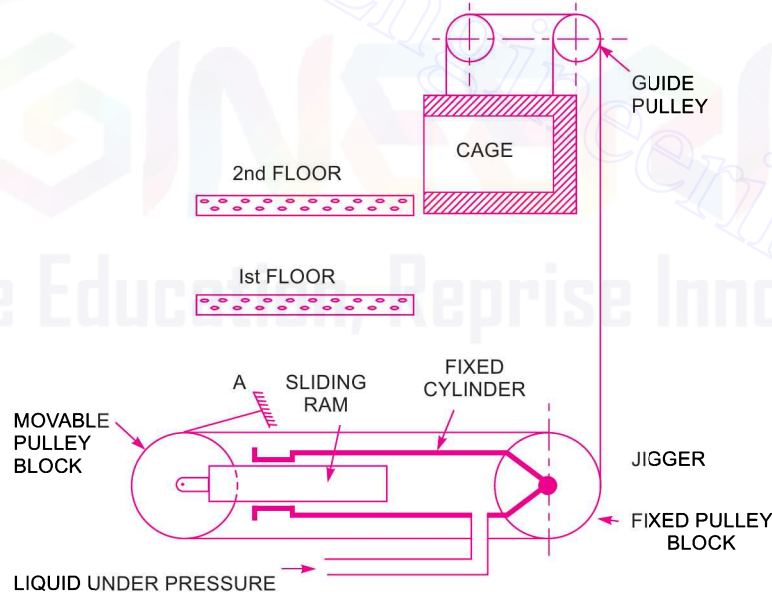

Fig. 21.9 *Suspended hydraulic lift.*
**21.6.2 Suspended Hydraulic Lift.** Fig. 21.9 shows the suspended hydraulic lift. It is a modified form of the direct acting hydraulic lift. It consists of a cage (on which persons may stand or goods may be placed) which is suspended from a wire rope. A jigger, consisting of a fixed cylinder, a sliding ram and a set of two pulley blocks, is provided at the foot of the hole of the cage. One of the pulley block is movable and the other is a fixed one. The end of the sliding ram is connected to the movable pulley block. A wire rope, one end of which is fixed at A and the other end is taken round all the pulleys of the movable and fixed blocks and finally over the guide pulleys as shown in Fig. 21.9. The cage is suspended from the other end of the rope. The raising or lowering of the cage of the lift is done by the jigger as explained below.